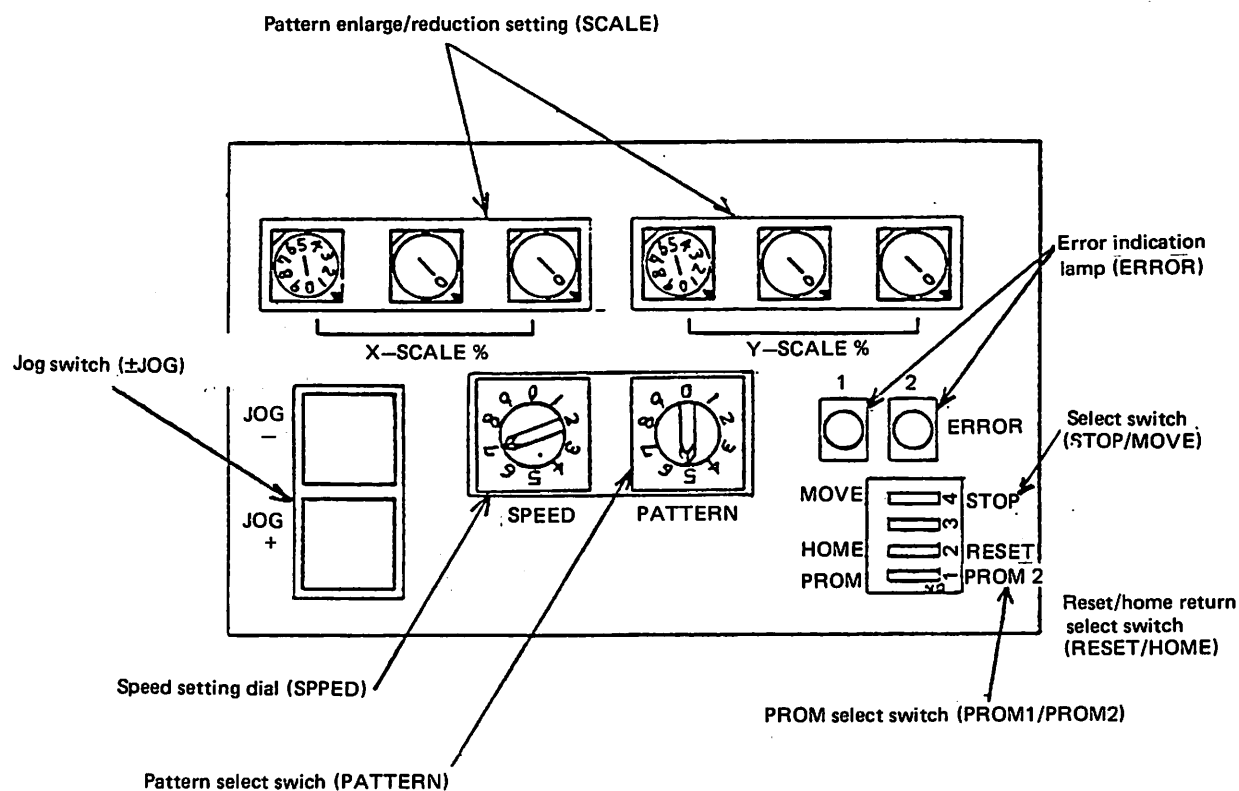

Fig. 14
- (1) Referring to Fig. 14, properly set switches on the switch panel.
- (2) Set up a fabric and depress the work holder lift switch to let down the work holder. Then depress the START switch, the sewing machine will start stitching.